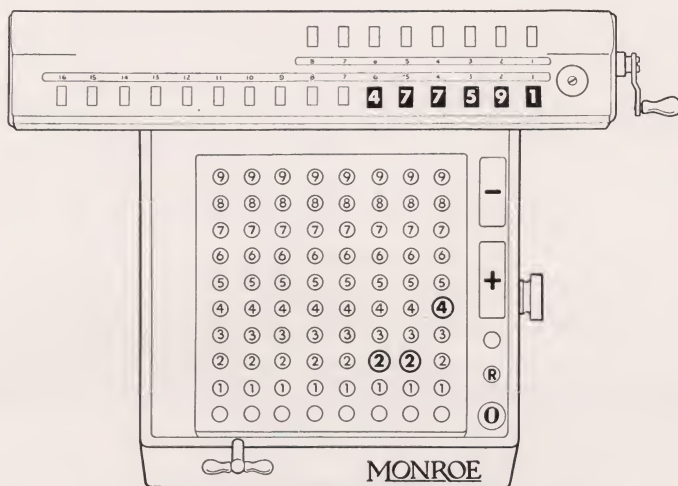

Figure 6
Step 2—Set the divisor, 224, on the right of the keyboard and move the carriage three spaces to the right so that the divisor, 224, is in direct alignment with the 477, the first three figures of the dividend. The machine at this point appears as indicated in Figure 6.